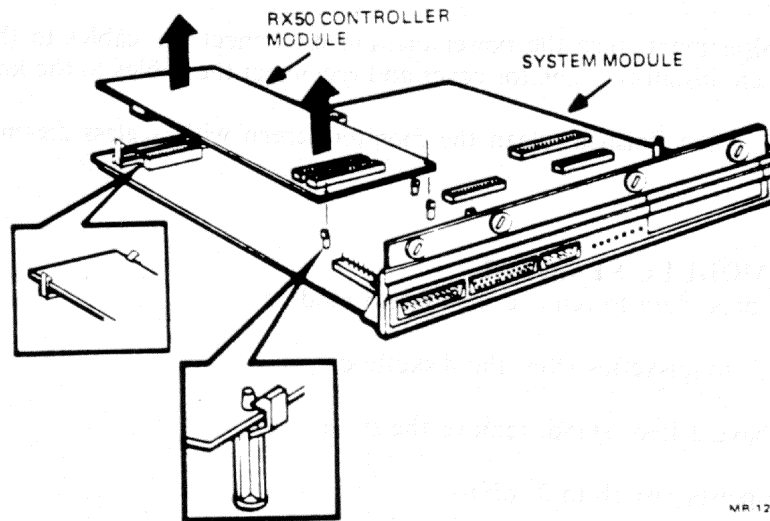

Figure 11-13 RX50 Controller Module Removal
2. Press the top of the standoffs and connector clips away to loosen the RX50 controller module. Then lift the controller module off of the system module (Figure 11-13).